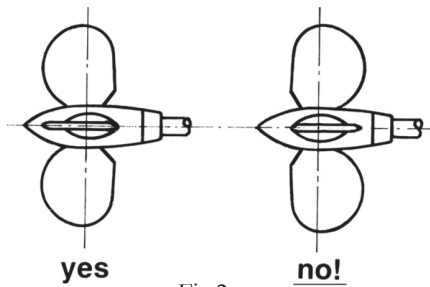

Fig.2
D) Move the blades into the feathered position, making sure that the rounded trailing edges of the blades are aft as shown in Fig. 2.